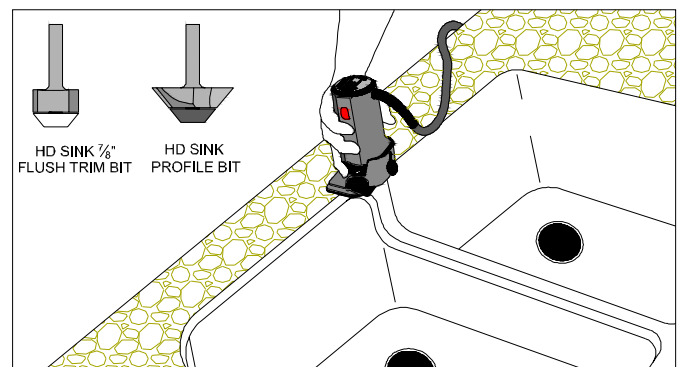

Figure 8B
- Use a laminate trim router with the HD bottom bearing flush trim bit and flush trim the overhanging laminate. (FIG. 8B)
- Use a laminate trim router with the HD sink profile bit, profile the edge of the laminate with the angle of the sink. (FIG. 8B)